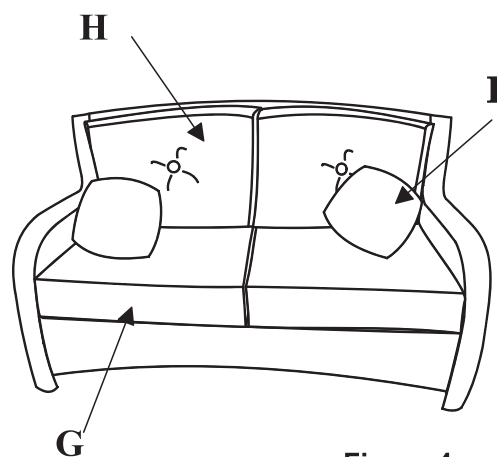

Figure 4
Step 3. Place the seat cushions (G), back cushions (H) and the toss pillows (I) on the seat. Your loveseat is now ready to use. (Figure 4)